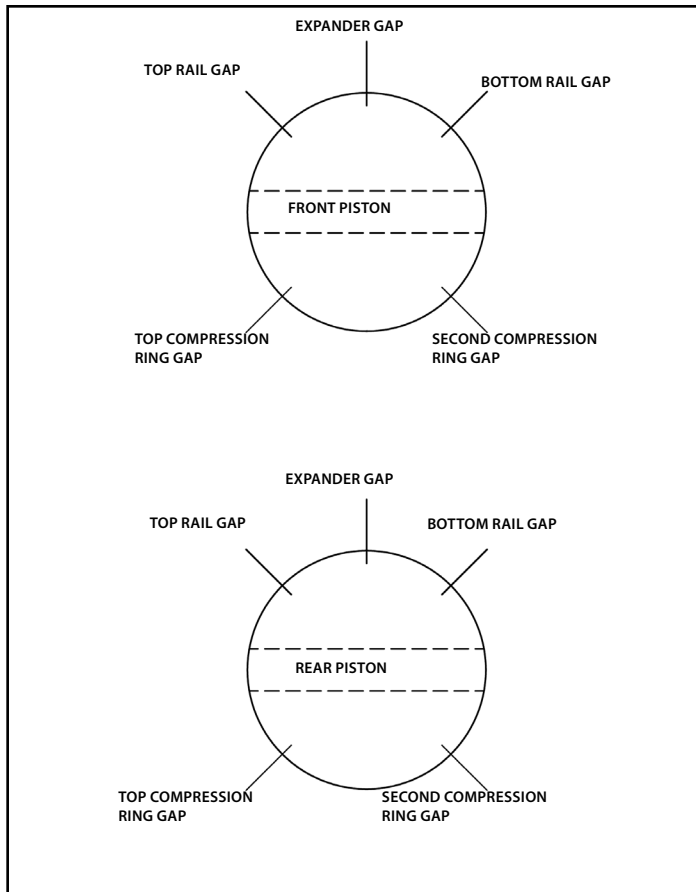

Figure 5: GAP PLACEMENT ILLUSTRATION
- Second compression ring gap should be 135° or approximately 4½" to right of oil expander gap. **See Figure 5.**
- Top compression ring gap should be 135° or approximately 4½" to left of oil expander gap. **See Figure 5**